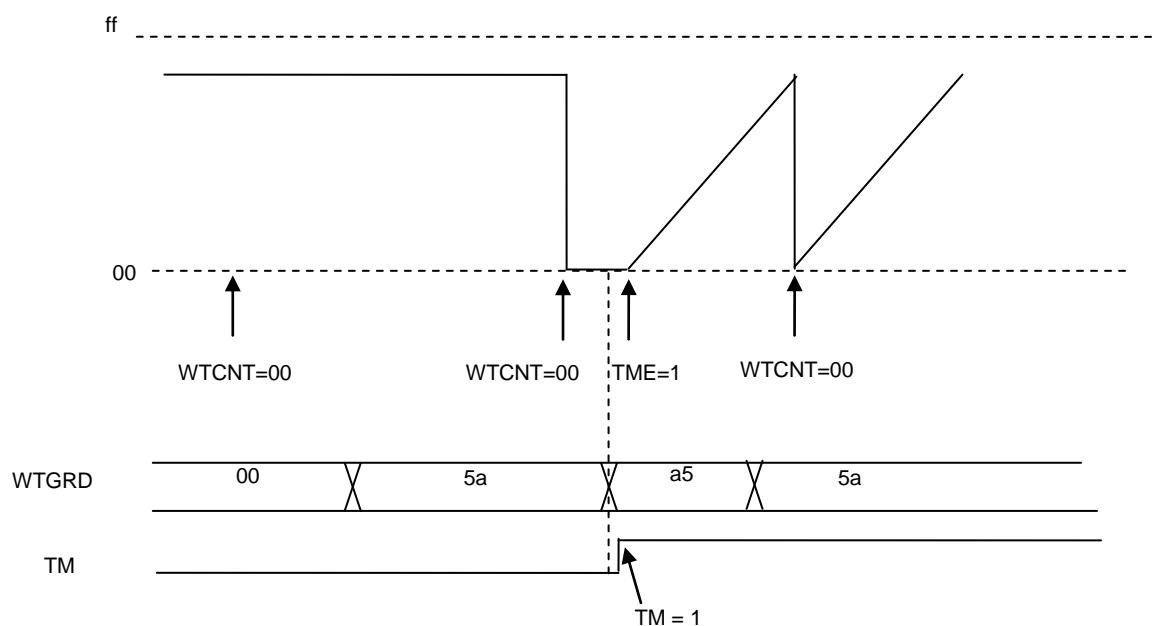

Figure 15-6 How to write into WTCNT and WTCSR
- If 0x5A is written into WTGRD, it is able to be written value into WTCNT. In Figure 15-6, 0x00 is written into WTCNT.
- If 0xA5 is written into WTGRD, it is able to be written value into WTCSR. In Figure 15-6, WTCSR.TM is written to 1 and WTCSR.TME is written to 1.